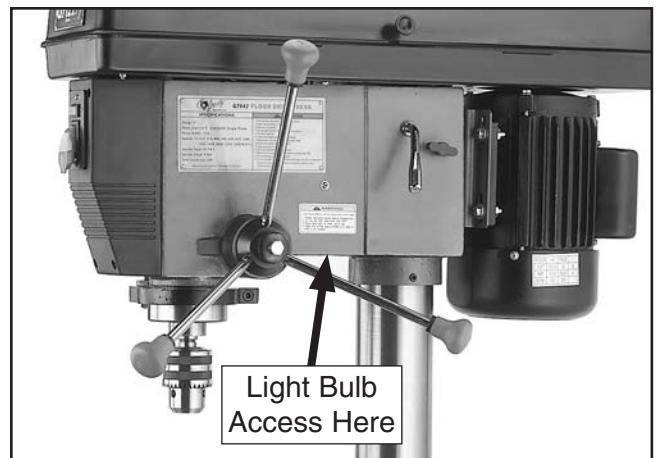

Figure 26. Light bulb access location.
- Install a 60W or smaller light bulb in location shown in **Figure 26** (120V operation only).